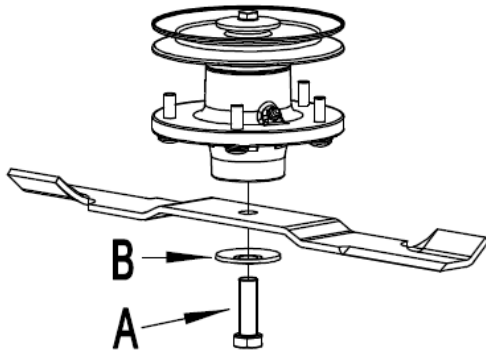

Fig. 12
(Refer to Fig. 12), Remove lock elastic washer (B), blade.
blade mounting bolt and elastic washer (Fig. 12) and torque to 156-163N.m.